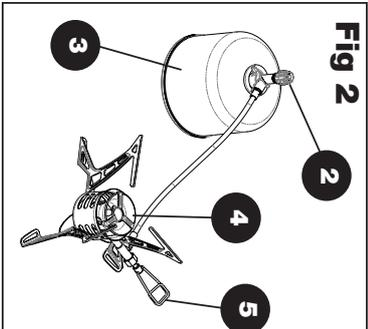

Fig 2
4. ASSEMBLING AND OPERATING THE APPLIANCE WITH A GAS CARTRIDGE (Figs. 2 and 4)
- 4.3. Place the valve squarely on top of the cartridge (as shown in Fig. 2).